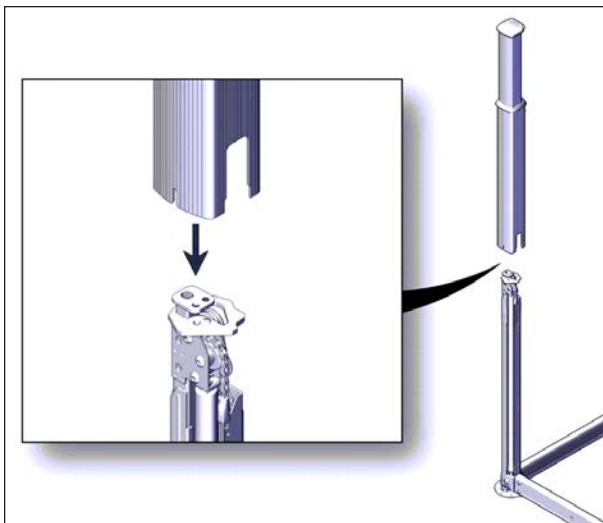

FIGURE 43: SLEEVE INSTALLATION
20. Slide the sleeves over all four jacks, see Figure 43.